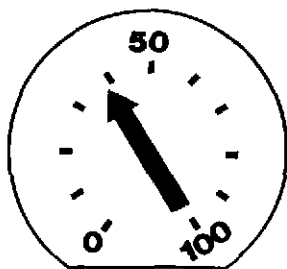

Fig. 19, The gain potentiometer.
- a. Slowly turn the potentiometer counterclockwise until a constant speed is achieved. Turn the potentiometer counterclockwise an additional 1/2 division, Fig. 19.